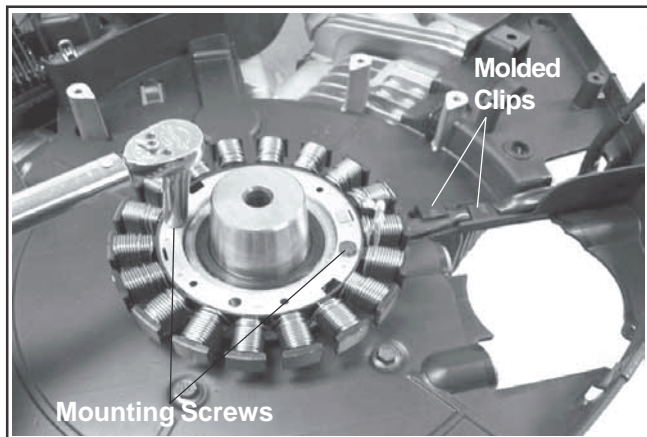

Figure 10-73. Installing Stator.
3. Install and torque the two hex flange screws to **6.2 N·m (55 in. lb.)**. See Figure 10-73.
4. Route the stator wires under the two molded clips in the backing shroud assembly. See Figure 10-73.